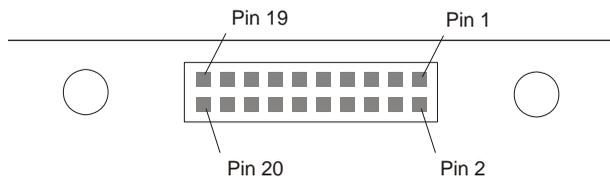

Figure 44: Top-view of 20-Pin Connector on the OEMV-1G
- g. See also *Figure 44* on page 120 and its table.